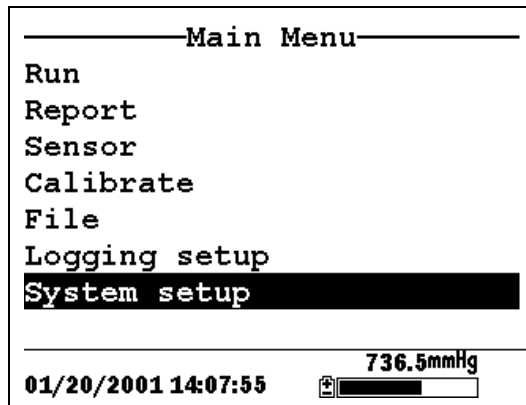

Figure 10.1 Main Menu
2. Use the arrow keys to highlight the **Data filter** selection. See Figure 10.1 Main Menu.
2. Use the arrow keys to highlight the **ID** selection. See Figure 10.1 Main Menu.
- 7.** Use the arrow keys to highlight the **GLP Filename** selection. See Figure 10.1 Main Menu.
- 2.** Use the arrow keys to highlight the **TDS Constant** selection. See Figure 10.1 Main Menu.